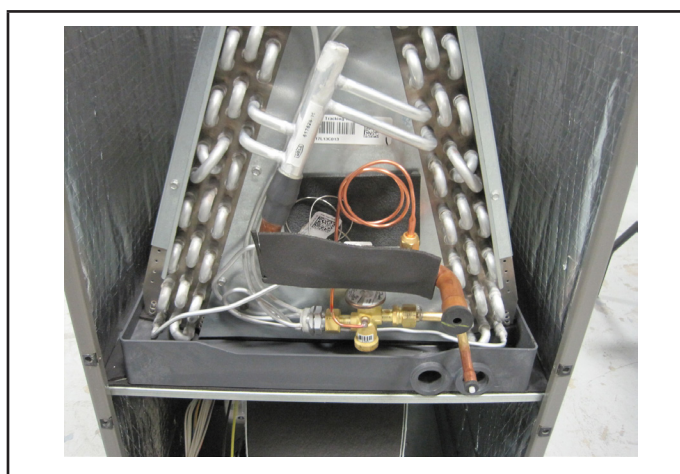

FIGURE 19.
- 2 - Install evaporator coil / pan assembly onto the downflow coil support brackets (FIGURE 19).